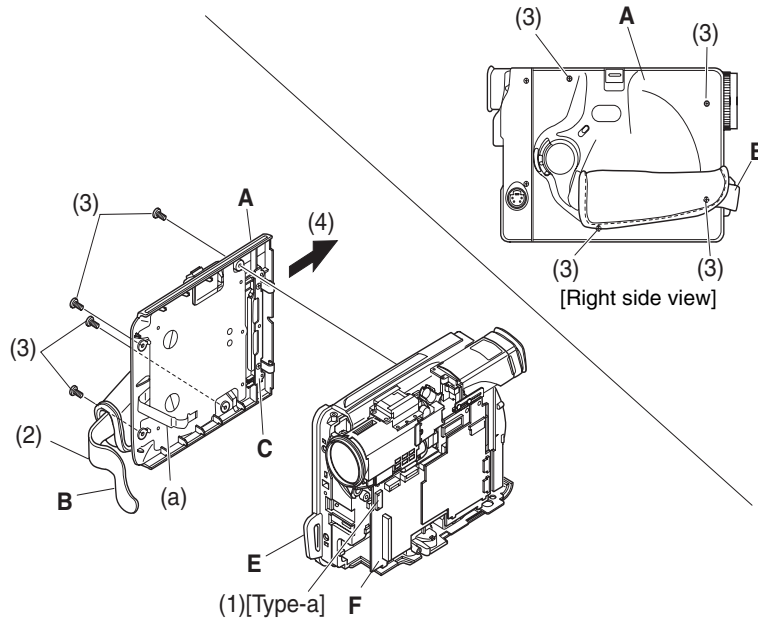

Fig. 4-2a
4.2 Disc cover (Fig. 4-2a, 4-2b, 4-2c)